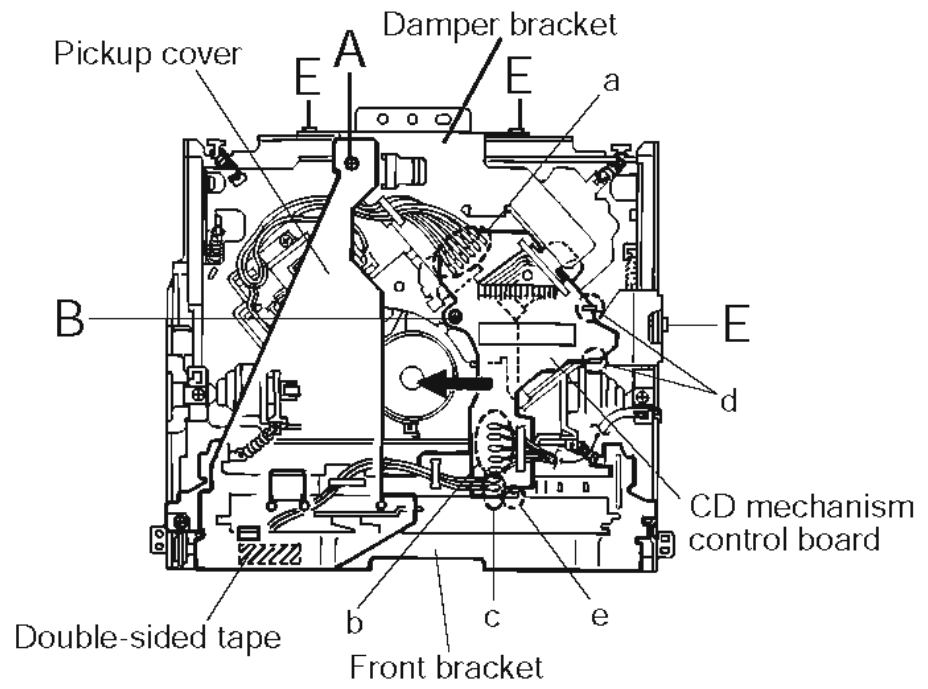

Fig.1
■ Removing the CD mechanism control board (See Fig.1 and 2)
**Removing the CD mechanism assembly (See Fig.1, 6 to 9)**